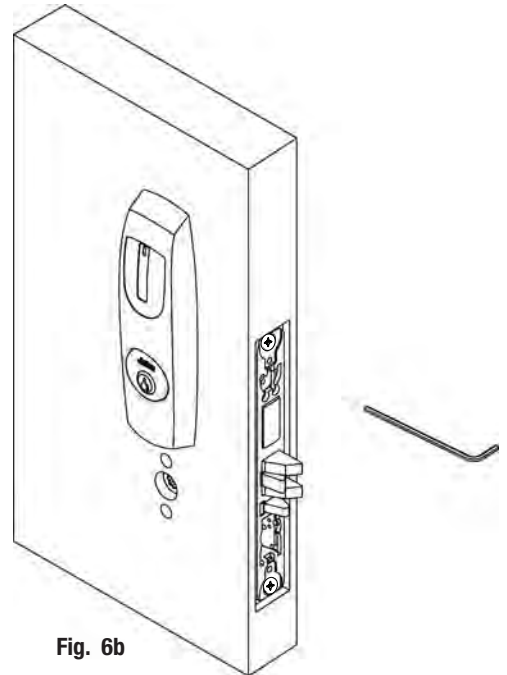

Fig. 6b
- b. Tighten cylinder clamp using 7/64" allen wrench provide (Fig. 6b and 6b1).